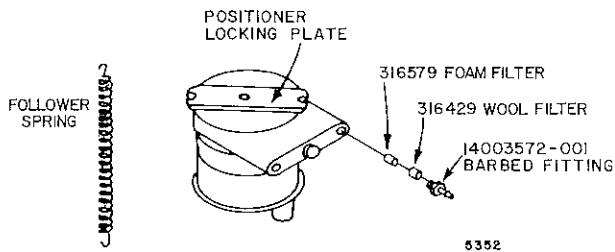

Fig. 8. Positive Positioner Gradutrol Relay Assembly No. 313555A-E. The Follower Spring, Shown Above, Is Included with 313555B and D.
1. Remove positioner by turning positioner locking plate (Fig. 8). **DO NOT TURN POSITIONER.**
2. When positioner assembly (Fig. 8) is disengaged, gently pull relay and disengage positioner spring hook (Fig. 5 in MAINTENANCE section) from follower spring. Let spring hang inside piston shaft.